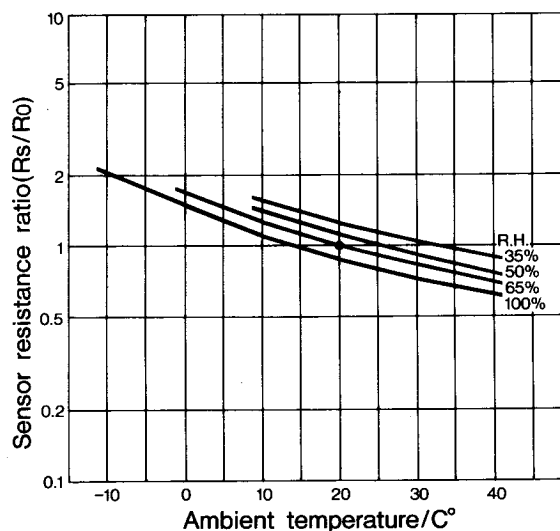

Fig. 6. Dependency on temperature and humidity of the TGS 822
The sensitivity characteristics of the TGS 822 are influenced by atmospheric temperature and humidity. The dependency is shown in Fig.6. The compensation with an electric circuit is required for better accuracy. (Refer to the chapter 6)
1. All the sensor characteristics in this catalog except Fig.6 are measured under the standard test conditions shown in Table III.